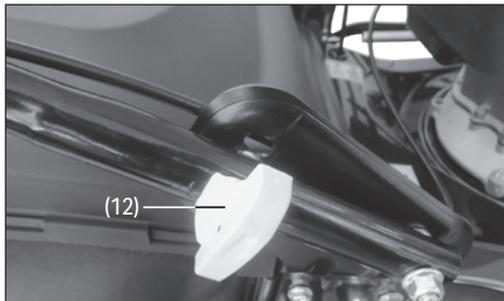

Fig.5
- Fit the cable clips (23) over the engine and drive lever cables on either side of the handles to secure in place.
6.4 Adjusting the Handle Height/Angle (Fig.5)